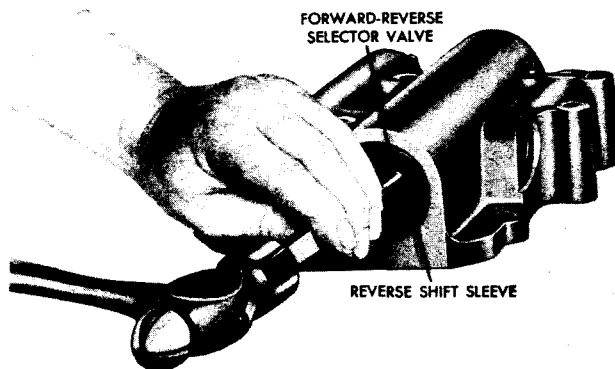

Fig. VI-3. Removing forward-reverse control valve, piston, forward shift sleeve, and oil seal from valve body
(4) Using a hammer and soft metal drift, drive the forward and reverse control valve toward the rear of the valve body (fig. VI-3). This will remove the oil seal 25 (A, foldout 14), shift sleeve 10, piston 5, and valve assembly 7.
(5) Remove remaining detent ball 28 and spring 27 from valve body 16.
(6) Clean the stem of valve 8 thoroughly.